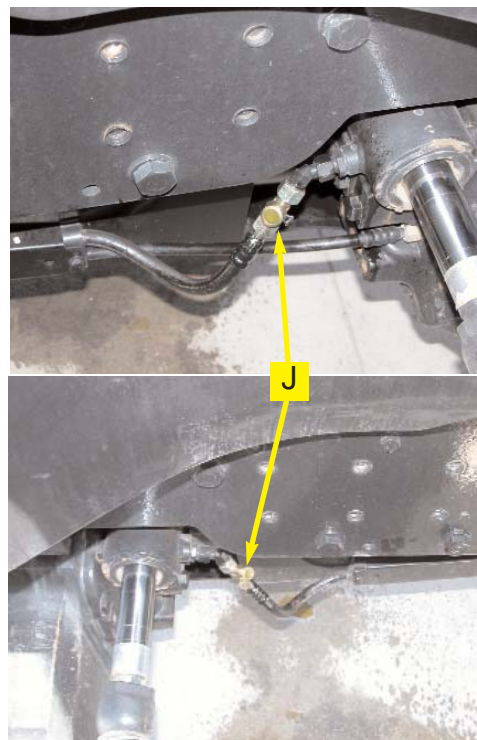

Figure 5b. Steering output fittings installed.
- b. Install the run tees (**J**) between the rubber and steel hydraulic lines as shown. (Figure 5b.)